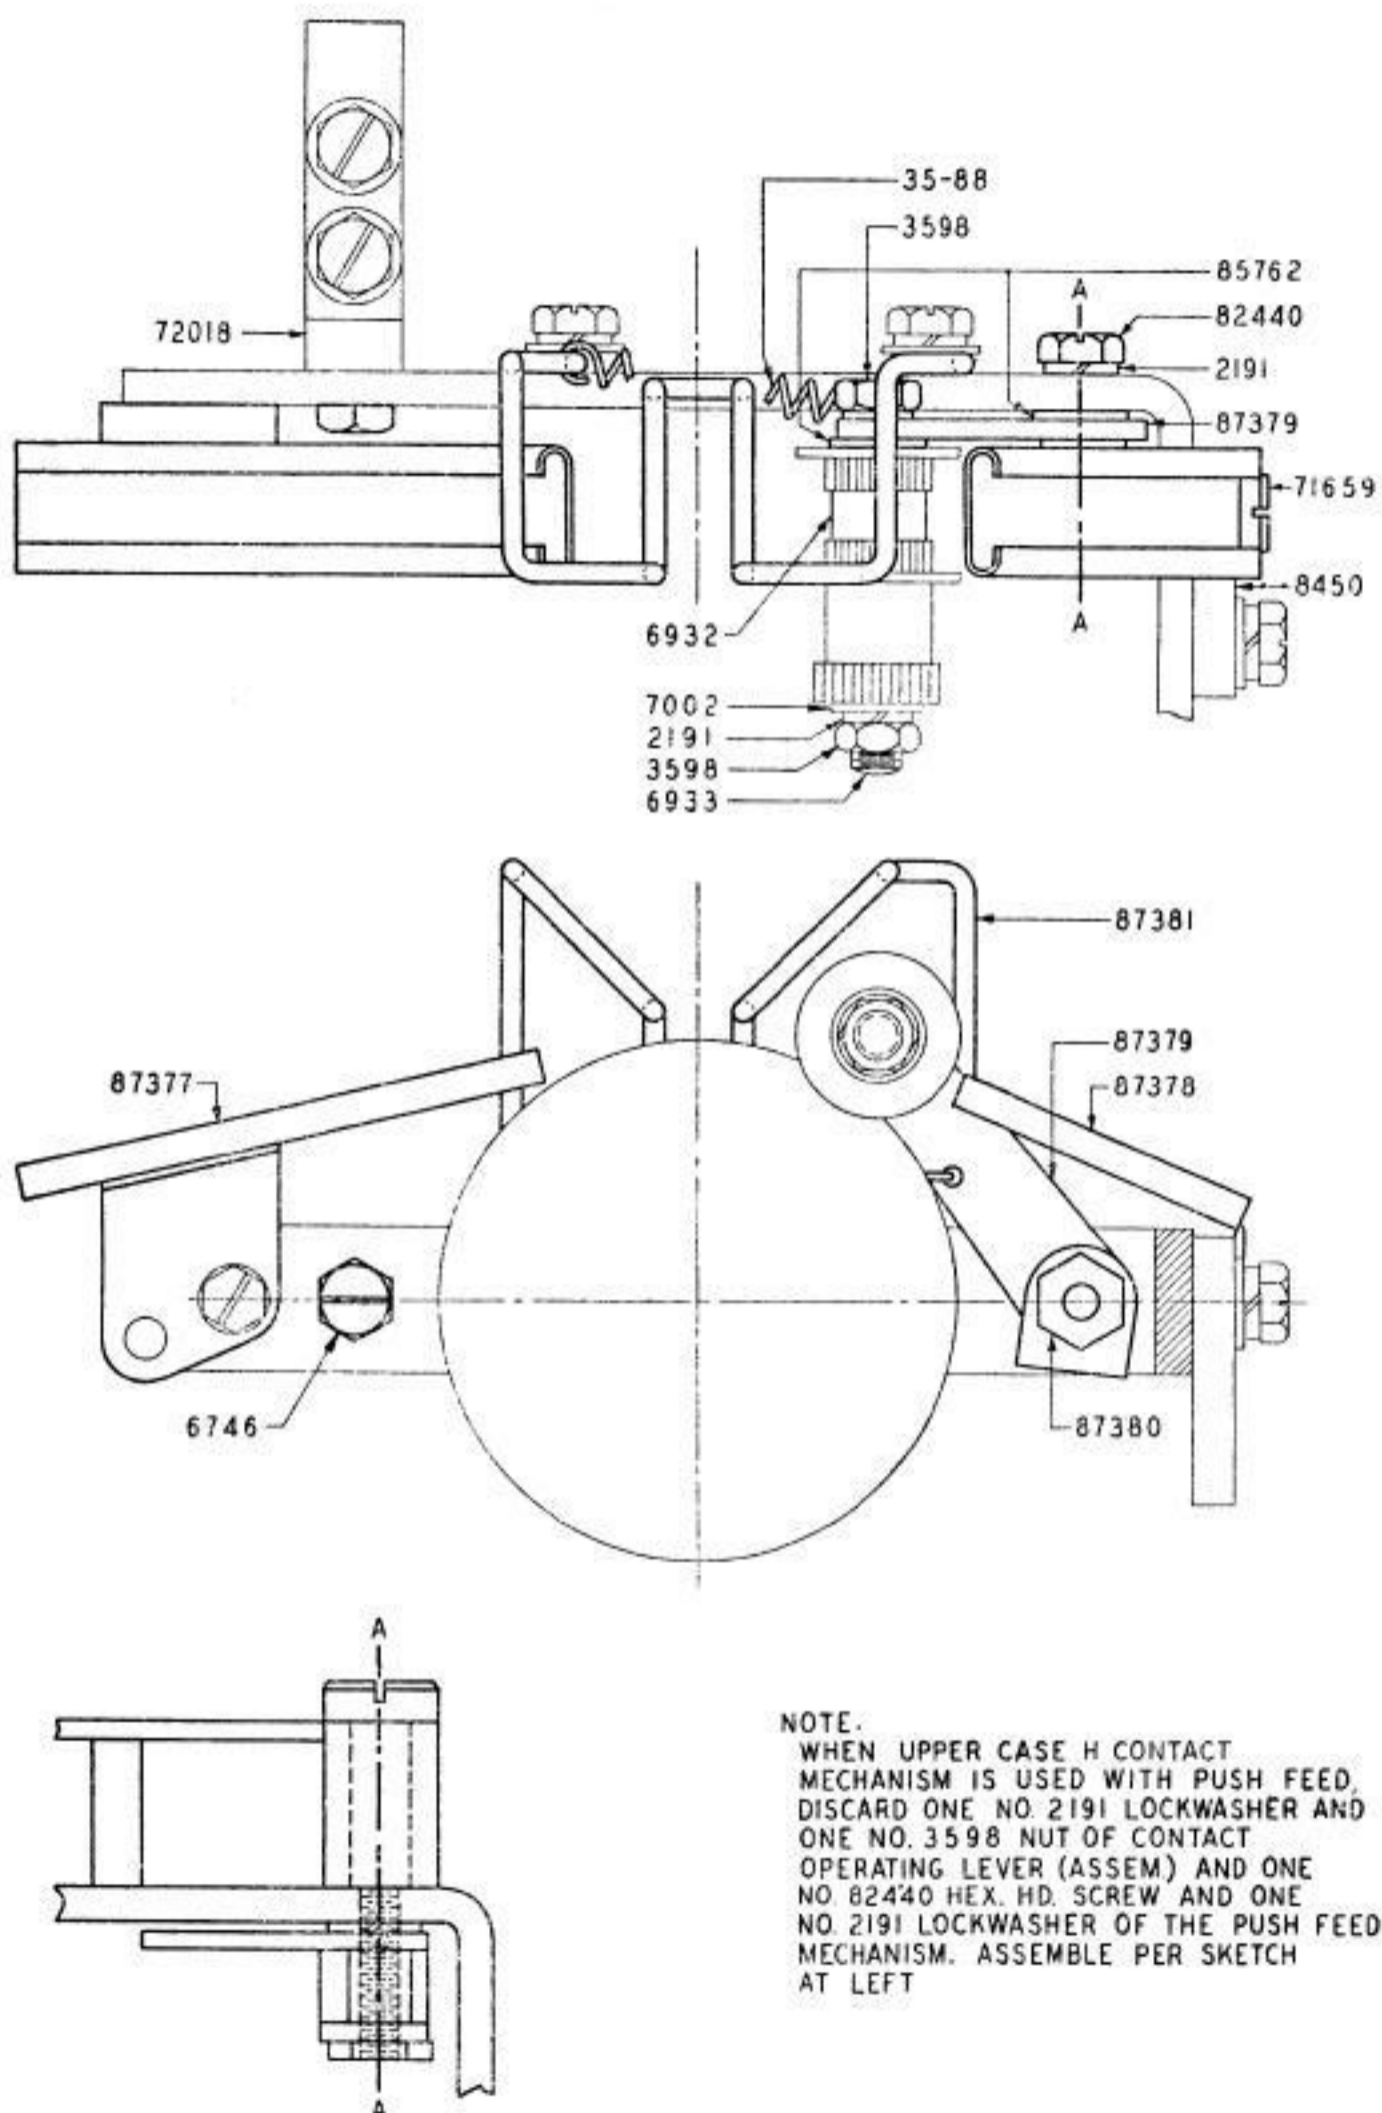

Fig. 1
- 2.03 Remove the 6932 feed roll, 6933 feed roll journal, two 3598 nuts, two 2191 lockwashers and 7002 washer from the 6931 left feed roll lever and assemble these parts on the new 87379 feed roll lever with one 85762 washer furnished between the feed roll lever and the 6932 feed roll as shown in the figure. Discard the old 6931 feed roll lever. The new assembly should be mounted to the platen frame at the right of the platen using the extreme right drilled hole in the rear of the frame and the 87380 bushing, 85762 washer and 82440 screw furnished with the parts and the 2191 lockwasher removed in 2.01 f. (See Fig. 1.)